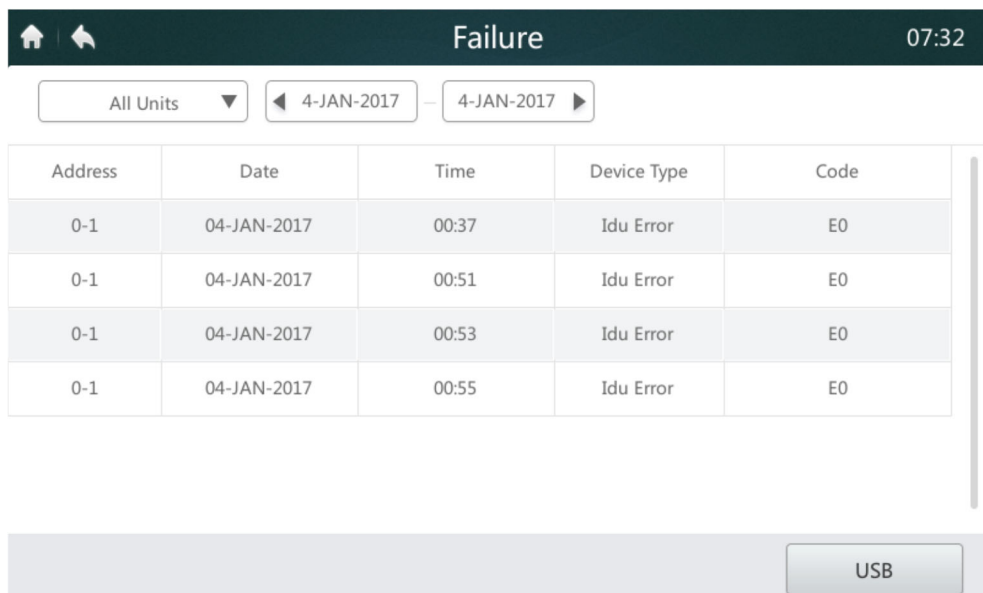

Figure 31 Homepage 2 of the Report page
- If there is a historical fault record in the system after the start date and end date are selected, the interface shown in Figure 31 will be displayed.
- Insert the USB storage device and tap the "USB" button marked "1" in Figure 31. The fault data will be exported to the mobile device in "csv" format. The fault data content includes the address, date, time, model and error code (as shown in the above figure) to facilitate queries. The screen will display the success message after the data is exported successfully, as shown below.